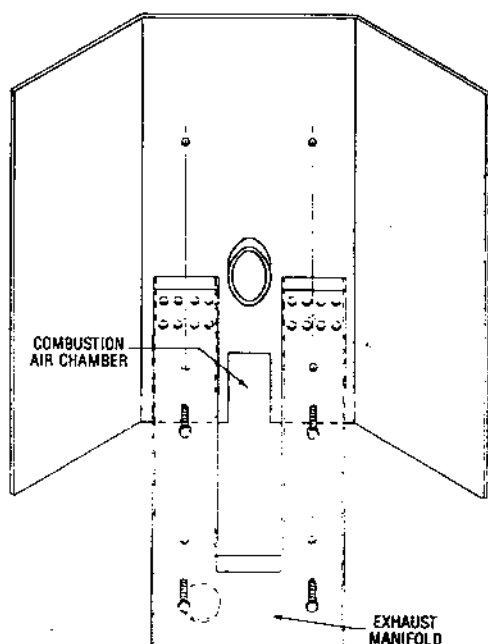

FIGURE 9
- Remove burn pot and ash pan. On P32 remove firebox baffle (see Section 2.334). Use  $\frac{3}{8}$ " wrench to remove four bolts (see Figure 9). Pull off manifold.